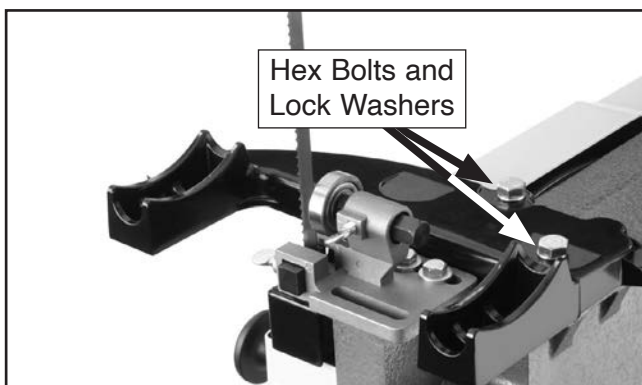

Figure 21. Trunnion support bracket installed.
2. Secure the trunnion support bracket with (2) M8-1.25 x 30 hex bolts and 8mm lock washers, as shown in **Figure 21**.